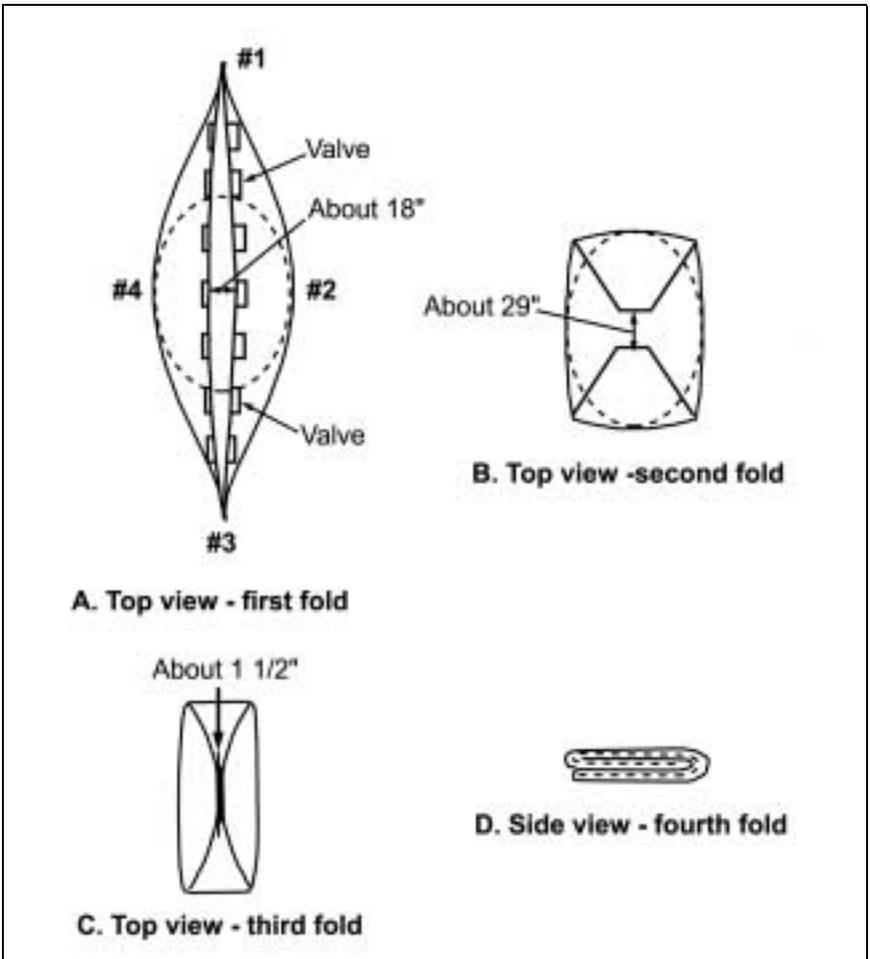

Figure 03-3-D0004-1. Disassembly of a 1,580- or 3,000-Gallon Water Tank
- a. First fold. Members #1 and #3 remain at their positions while holding onto the sides of the tank. Members #2 and #4 fold their sides toward the center, leaving a space of about 18 inches at the center between the two edges (see Figure 03-3-D0004-1).